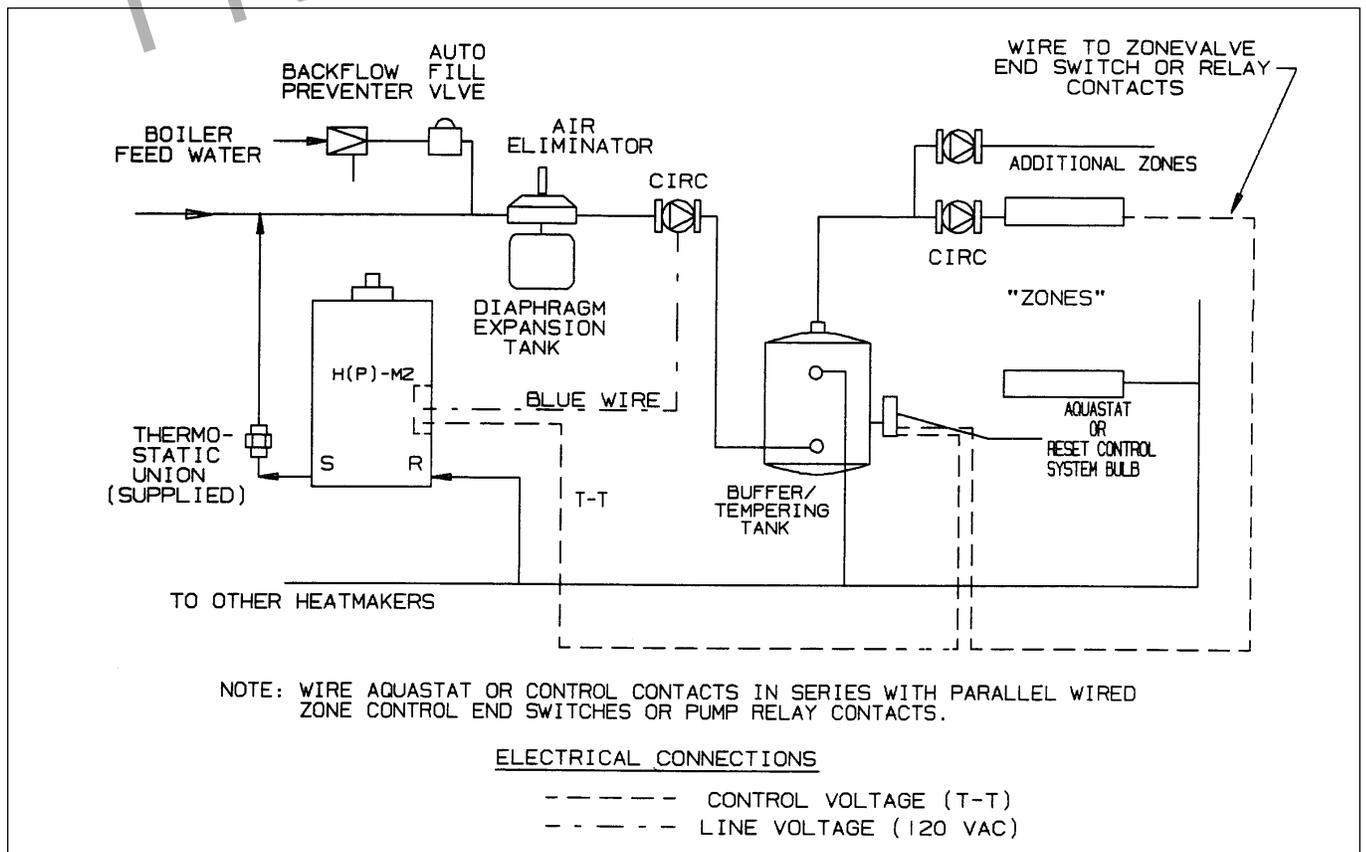

Figure 17. Hydronic Piping H(P) in Radiant "in floor" or Low Mass Heating System.
**NOTE:** H, HP boilers installed in radiant (in floor) systems and other low mass systems should be provided with a buffer tank to assure constant supply temperature without excessive boiler short cycling (see Figure 17).